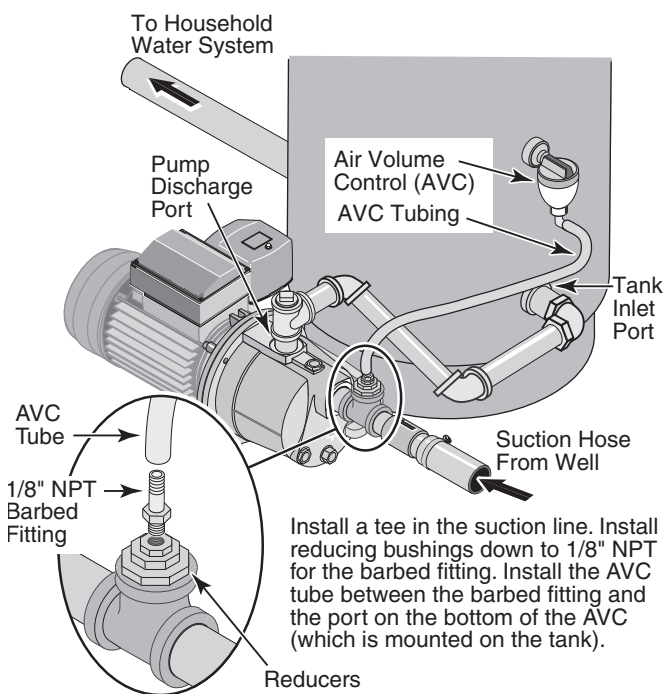

Figure 6 – Standard Tank Connections
STANDARD TANK CONNECTION (FIGURE 6)
1. Install a tee in the pump discharge port (see Figure 6).
3. Install a tee with reducing bushings in the suction pipe as shown in Figure 6.